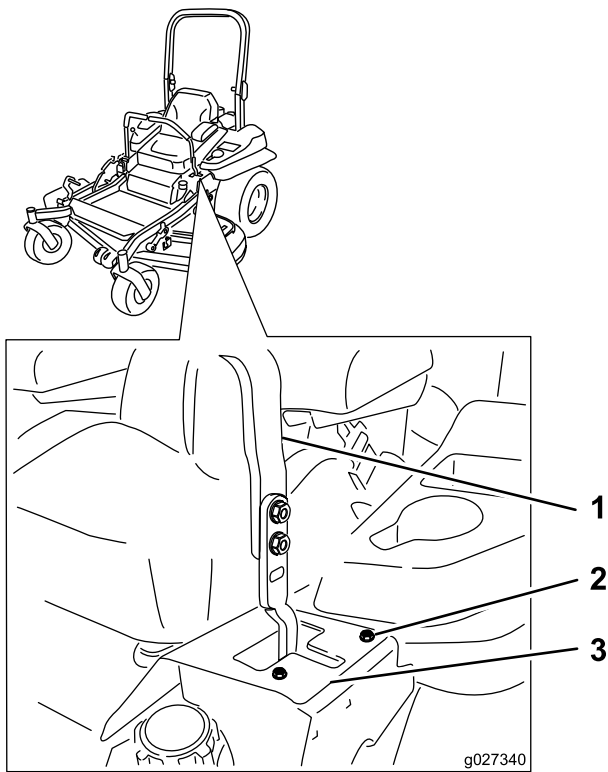

Figure 61
6. If it tracks to the right, loosen the bolts and adjust the left stop plate rearward on the left T-slot until the machine tracks straight (Figure 61).
7. If it tracks to the left, loosen the bolts and adjust the right stop plate rearward on the right T-slot until the machine tracks straight (Figure 61).
8. Tighten the stop plate (Figure 61).